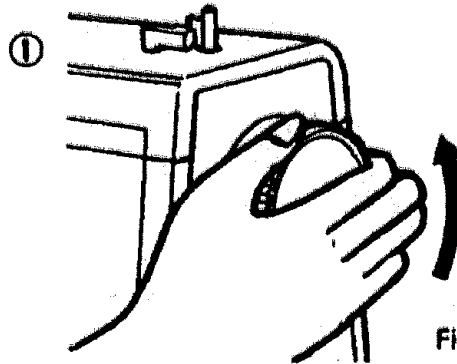

Fig. 1
1. Raise presser foot lever. Hold needle thread loosely in left hand and rotate handwheel toward you one complete turn. (Fig. 1)